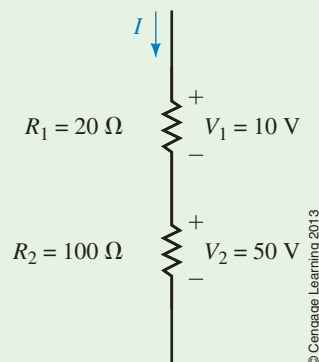

FIGURE 4-17
Compute the power to each resistor in Figure 4-17 using Equation 4-13.
- For Figure 4-17, $I = 0.5 \text{ A}$. Use Equations 4-10 and 4-12 to compute power to each resistor. Compare your answers to the answers of Example 4-7.